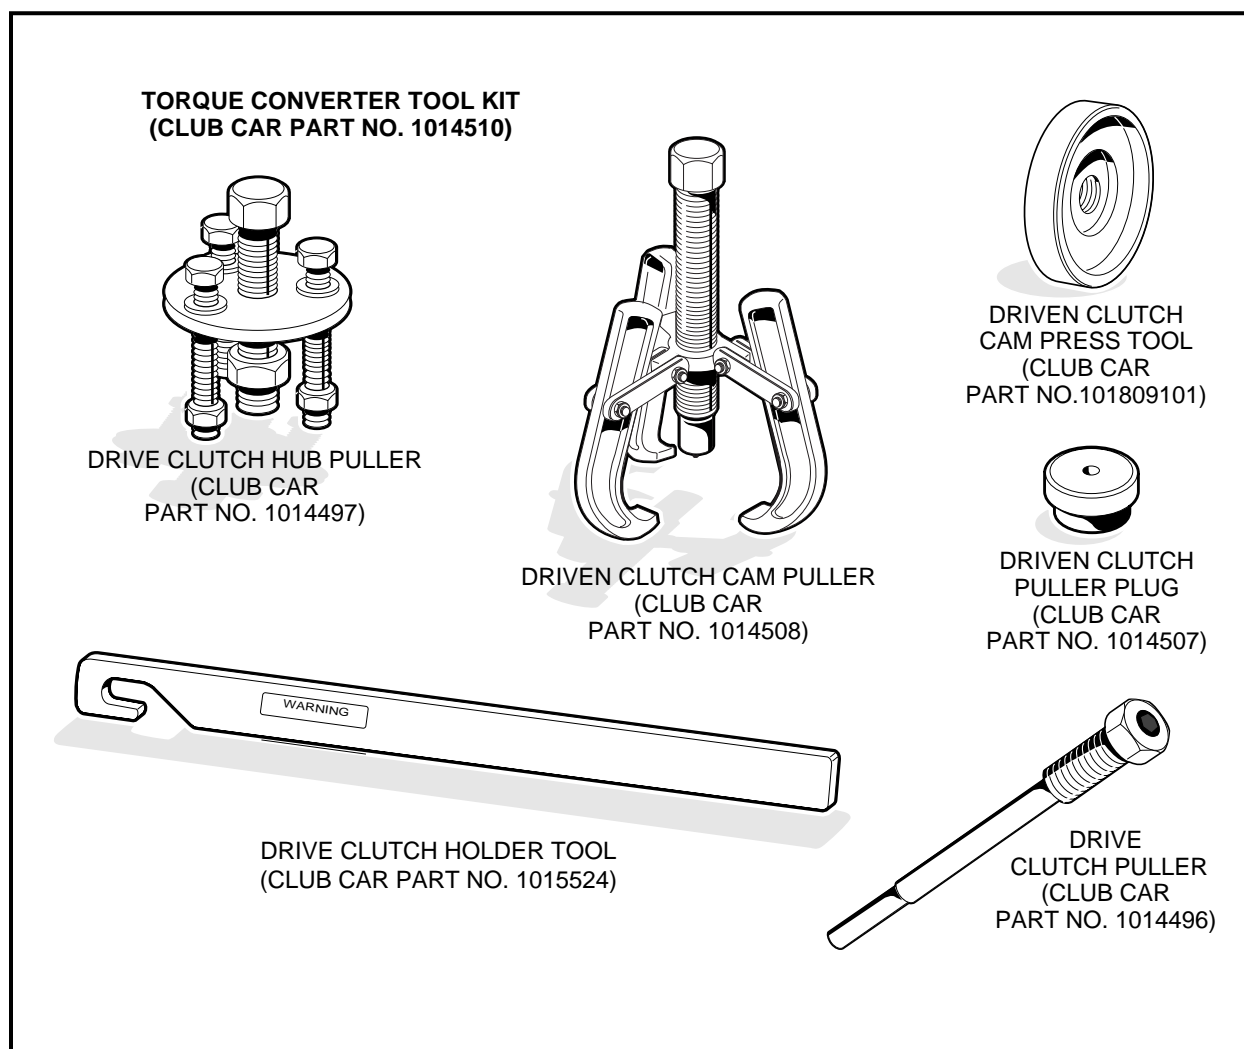

Figure 17-1 Torque Converter Tool Kit
- Torque Converter Tool Kit, Club Car Part No. 1014510 (**Figure 17-1, Page 17-2**).